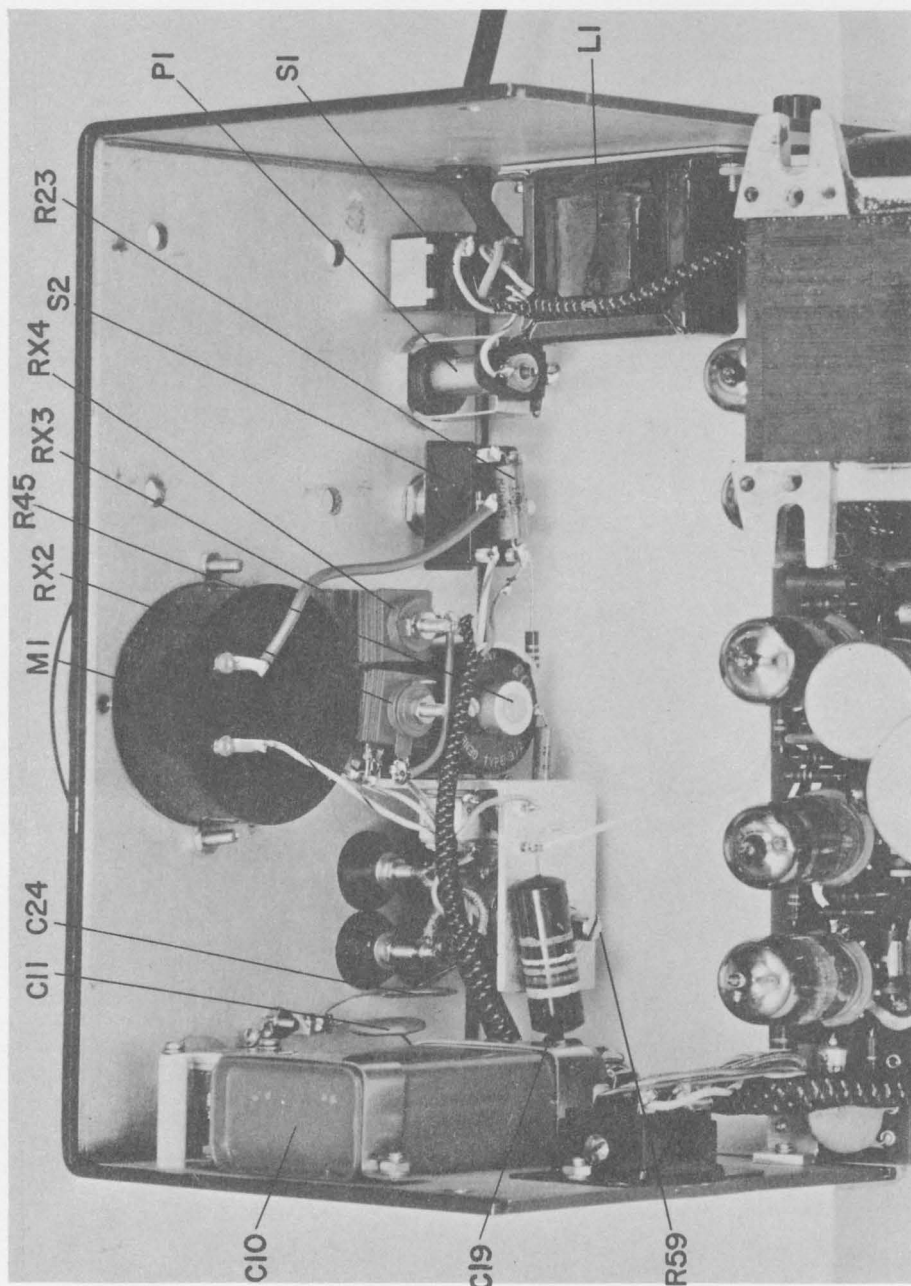

Figure 4. Top Interior View with Etched Board in Servicing Position.
4.4 ZERO-SET ADJUSTMENT. If the output voltage is not zero when the OUTPUT VOLTAGE control is set at minimum (fully counterclockwise), open the instrument and set the voltage to zero with the screw-driver adjustment R59 (see Figure 4). Note that, because of the presence of diode RX6, the output voltage cannot be set to more than a few tenths of a volt negative; therefore, the correct setting of R59 is that at which the voltage just reaches zero from a positive value.